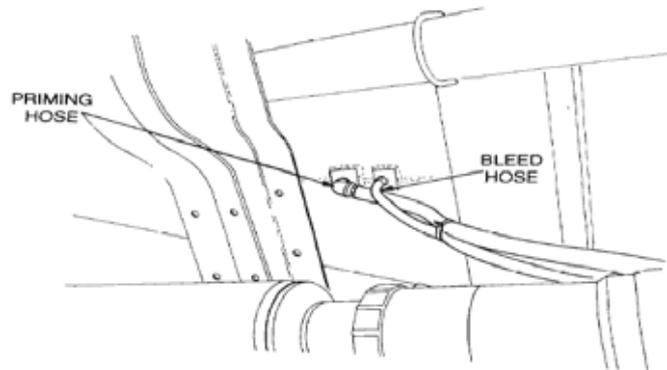

Figure 23 Location of Priming and Bleed Hoses
- i.** Remove the hoses from the tank (Figure 23).